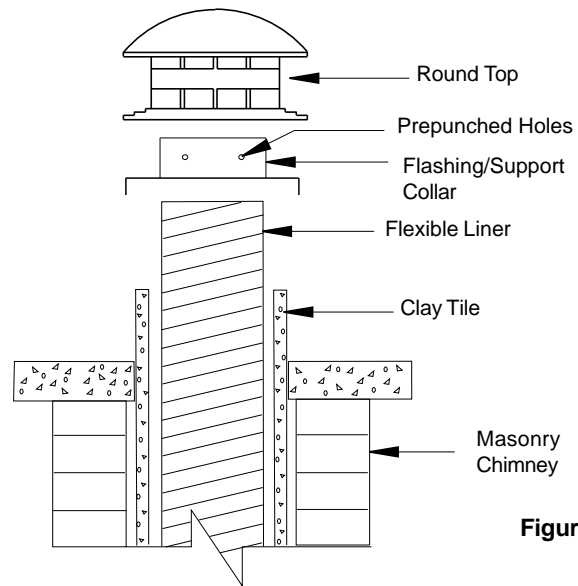

Figure 9
Pull enough of the Flexible Liner through the Flashing/Support assembly to be able to slide the Round Top into the Flexible Liner (see Figures 9 & 10).
Slide the Round Top and Liner back through the Flashing/Support assembly until the skirt of the Round Top comes in contact with the collar of the Flashing/Support assembly. Install the four (4) 3/4" sheet metal screws (provided) through the prepunched holes in the Flashing collar (see Figure 9).